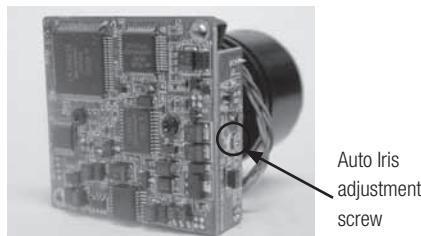

Figure 8
**FIXED AND FIXED VARI-FOCAL LENSES.** There are no user adjustable settings on these units (**Figure 8**)